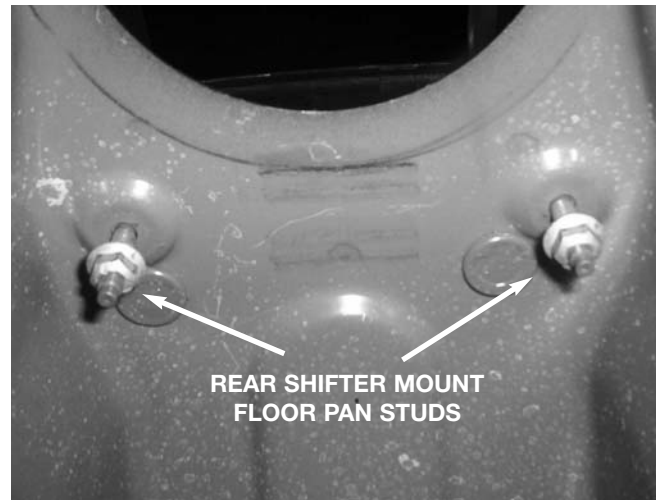

Figure 4
9. Using a 10 mm wrench or deep well socket, remove the two (2) hex nuts that secure the rear mount of the shifter assembly to the floor pan and set aside (see fig.4).